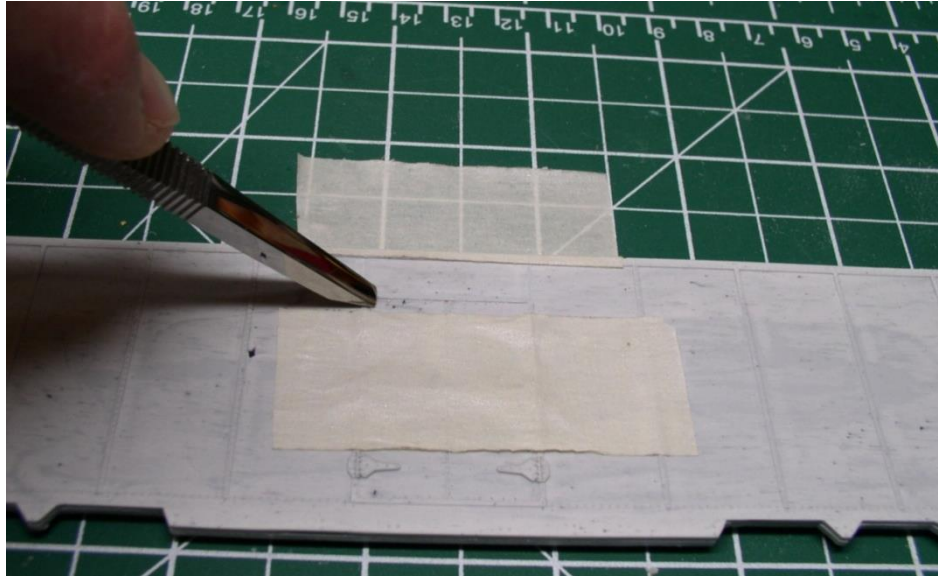

Figure B7
7. Use the XACTO® No. 17 Light Weight Chiseling Blade or Micro Mark 4mm Plastic Modeller's Chisel to carefully remove the details around area above the door including the original drip strip. Slow and easy works well. See Figure B7.